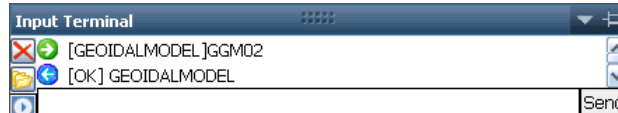

Figure 80: [GEOIDALMODEL]GGM02 Command and Response
6. Type [GEOIDALMODEL]GGM02 in the *Input Terminal* and click the *Send* button (see Figure 80).